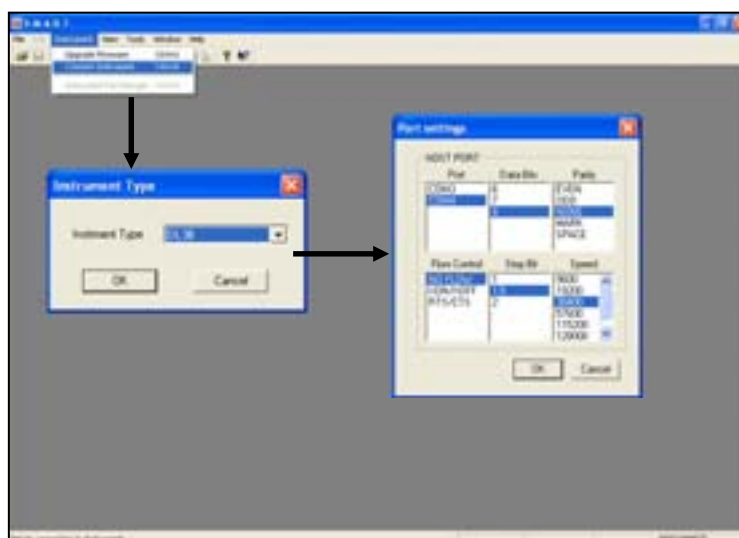

Figure 1.1
- d) From the instrument bar, click on the words “Instrument” and “Connect Instrument”, (Figure 1.1) (see **paragraph 1.4 “Warning”**)